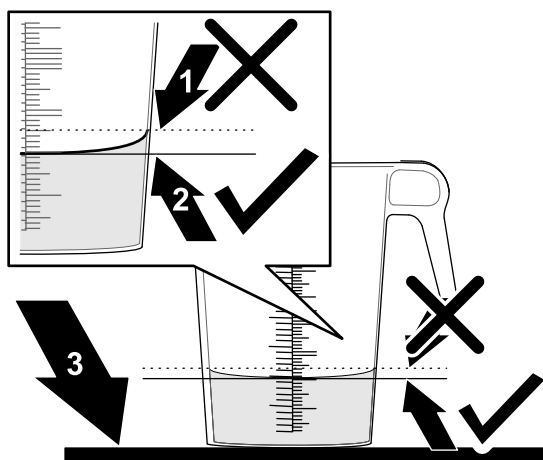

Figure 35
6. Set the graduated container on a level surface and note the fluid volume (Figure 35).